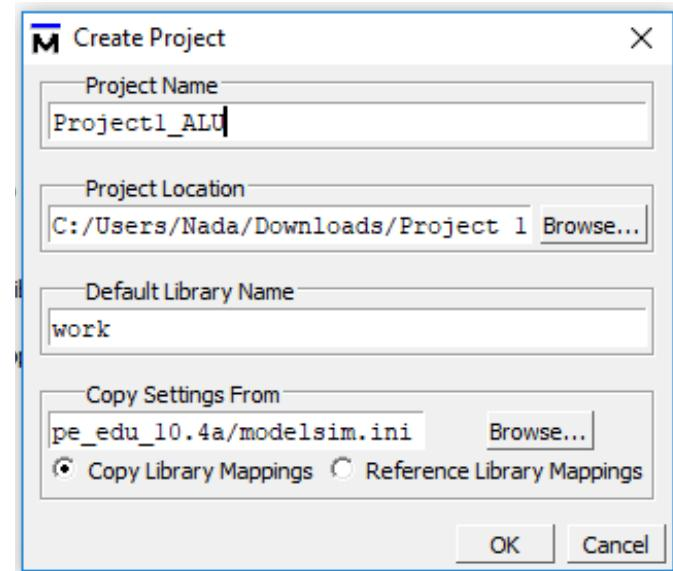

Figure 2.2: Create Project window
- A 'Create Project' window will show up as in Figure 2.2.